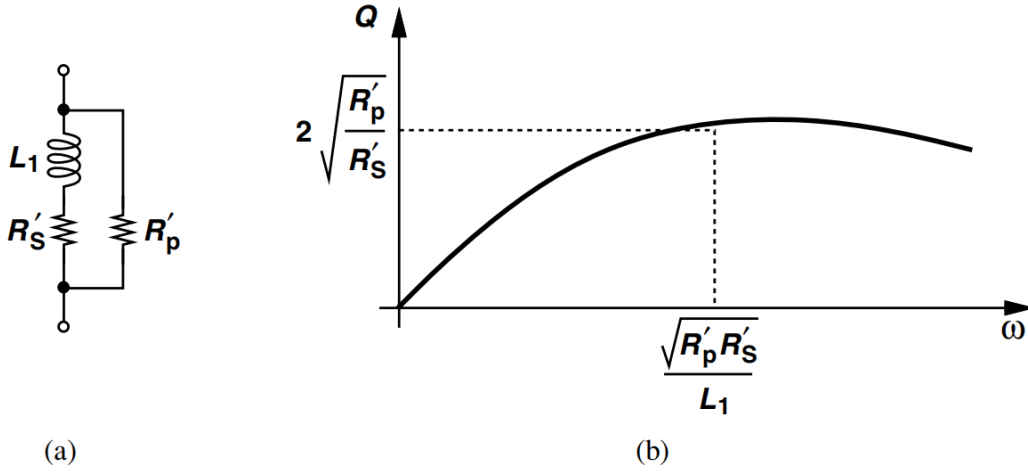

Figure 7.32 (a) Modeling loss by both series and parallel resistors, (b) resulting Q behavior.
7.2. Prove that the Q of the circuit shown in Fig. 7.32(a) is given by Eq. (7.62).